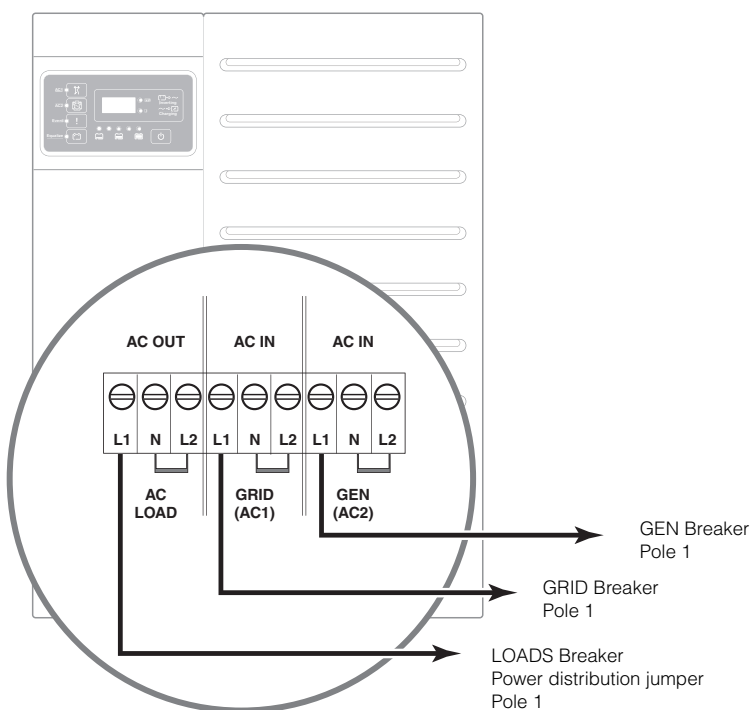

Figure 3-34 Inverter/Charger Three-Phase AC Wiring
1. Connect the AC Wiring in the master inverter/charger (INV1) terminal block. See Figure 3-34. Connect INV2 and INV3 the same way.